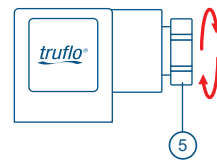

Fig.3
3. Loosen the cable gland screw (part 5) as shown in Fig. 3.